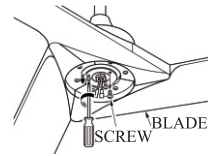

FIG.11
1. Remove 1 of 3 screws on round plate, and loosen the other 2 screws. (see Fig.11)